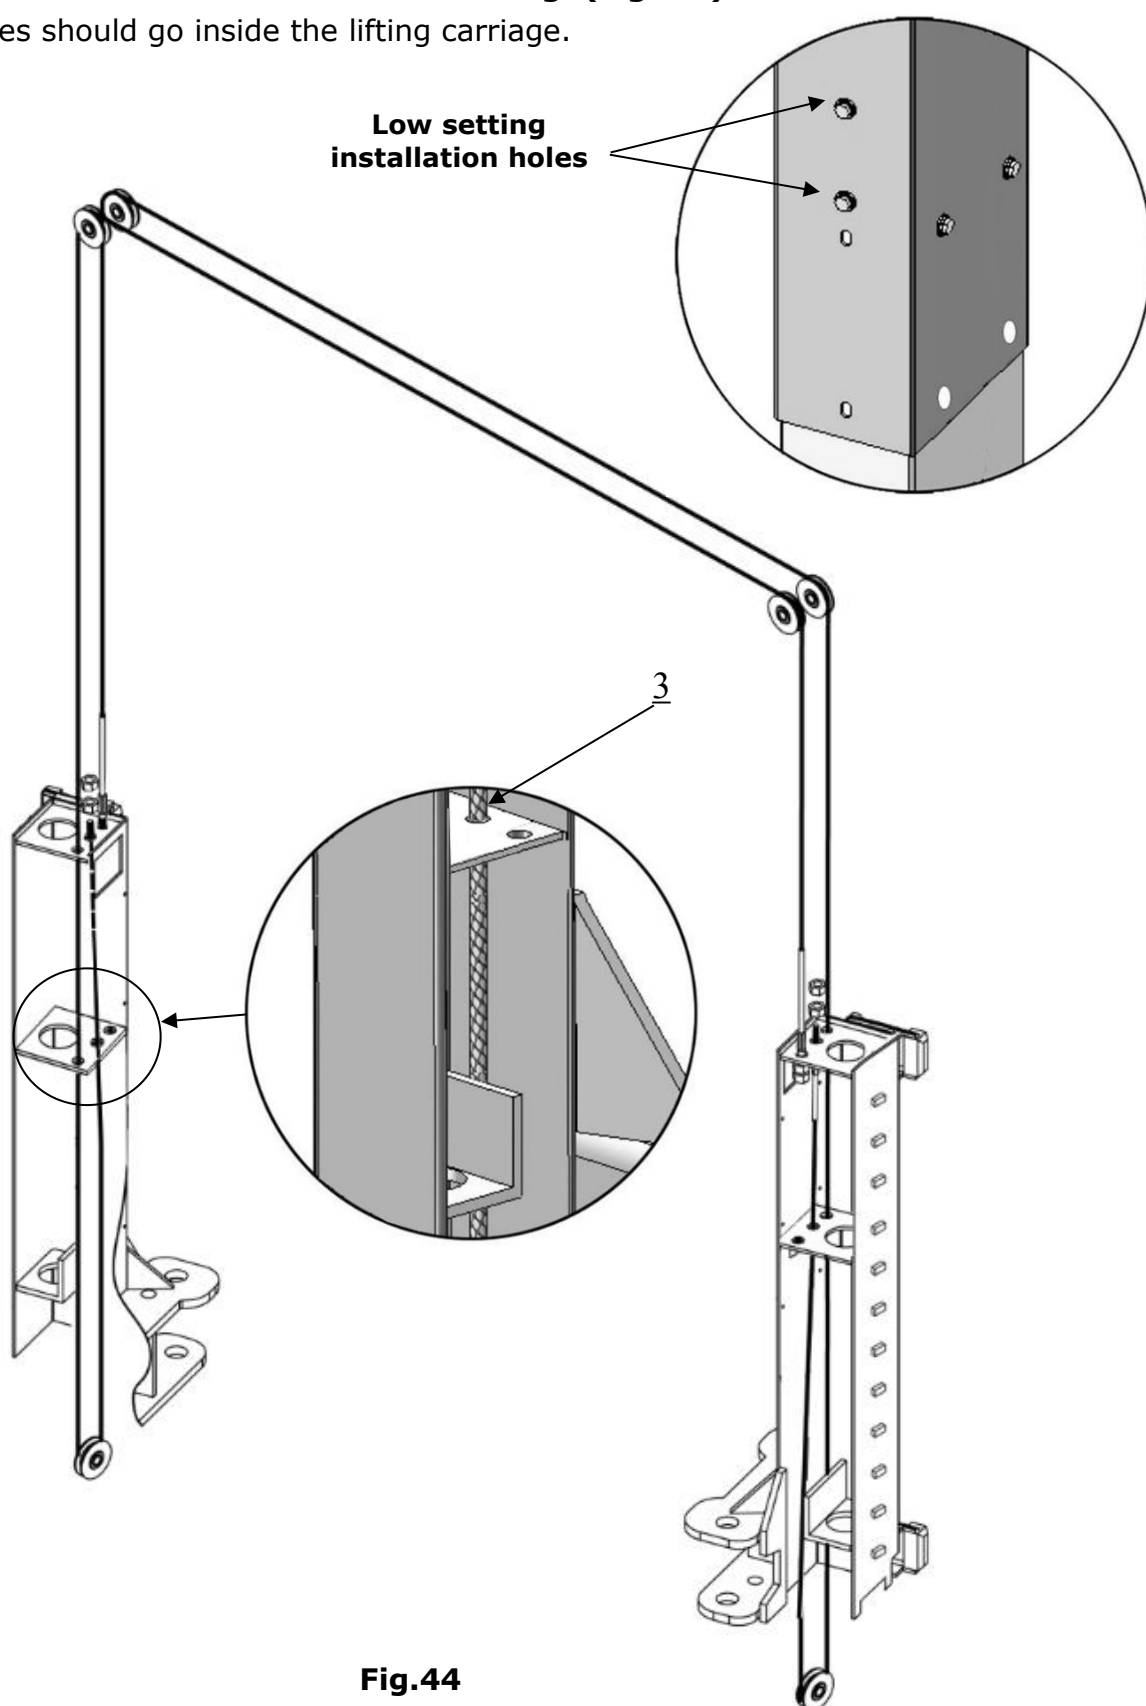

Fig.44
2.1. OHX-10H: Cable connection for low setting. (Fig. 44)